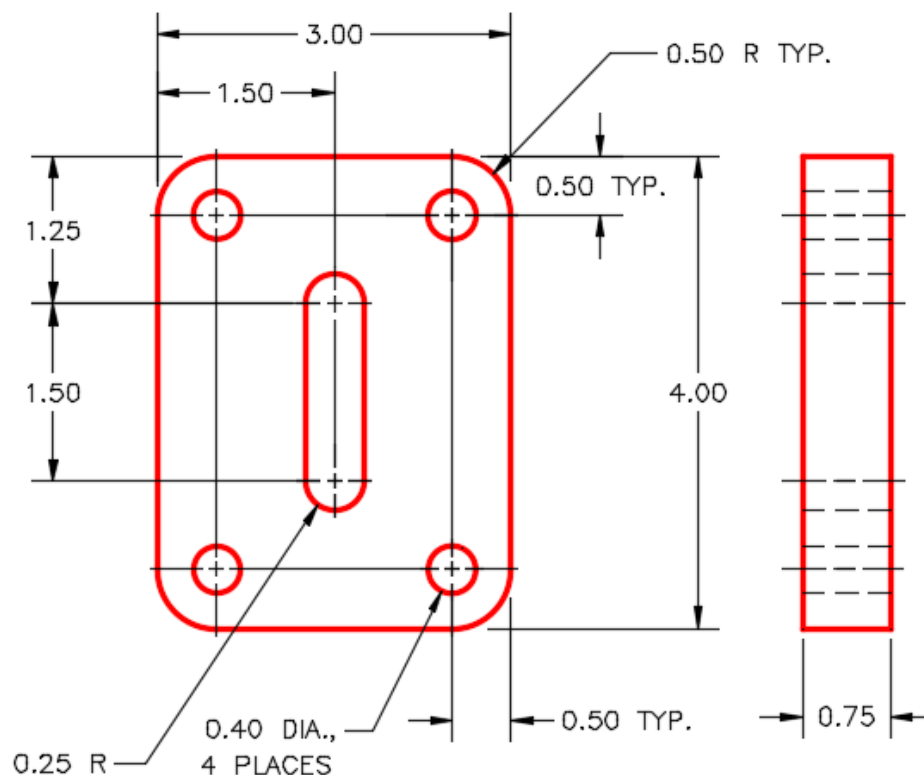

Figure Step 4A
Step 4 Draw the top contour of the wireframe model only. Use the multiview drawing as a reference. (Figure Step 4A and 4B)